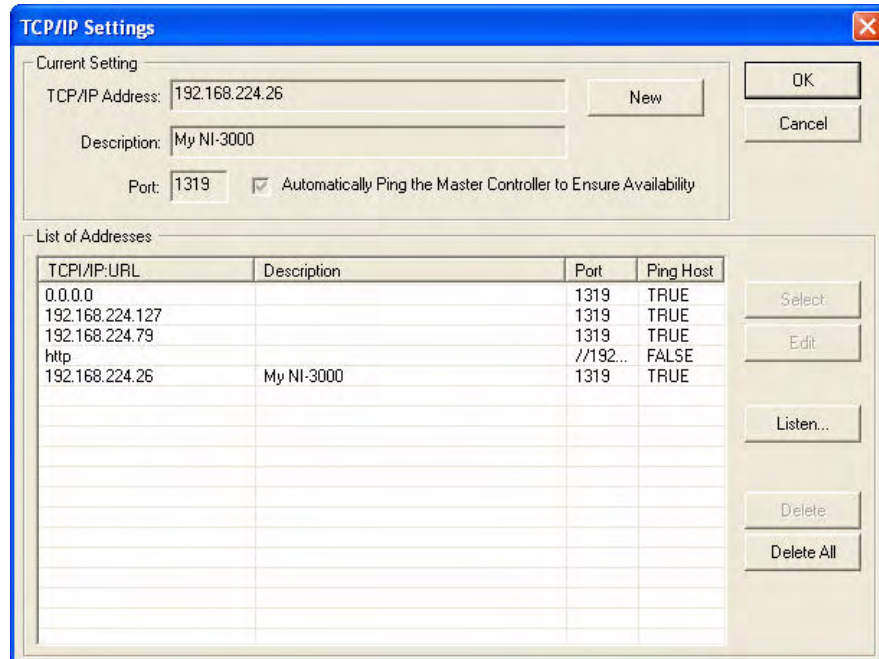

FIG. 84 NetLinx Studio - TCP/IP Settings dialog
7. Click **Edit Settings** to open the *TCP/IP Settings* dialog (FIG. 84).